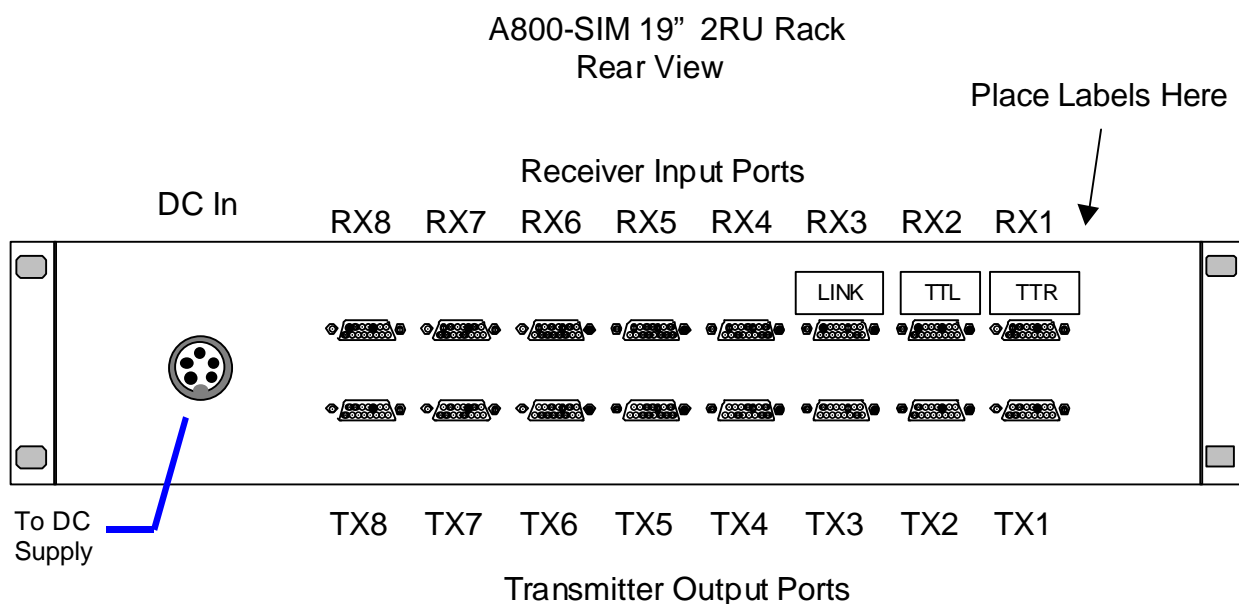

Figure 3
- On the rear of the A800-SIM, place labels to identify ports 1 to 3, as per Figure 3.